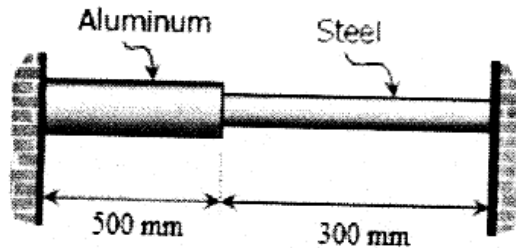

Figure 1
11. (a) For the compound bar shown in Figure 1. Calculate the stress in each segment if the temperature increases by 500C. Assume, for the aluminium segment: Area = 400 mm²; Young's Modulus = 70 GPa; Co-efficient of thermal expansion = $23 \times 10^{-6}/^{\circ}\text{C}$ and for the steel segment: Area = 100 mm²; Young's Modulus = 210 GPa; Co-efficient of thermal expansion = $12.4 \times 10^{-6}/^{\circ}\text{C}$. (13)